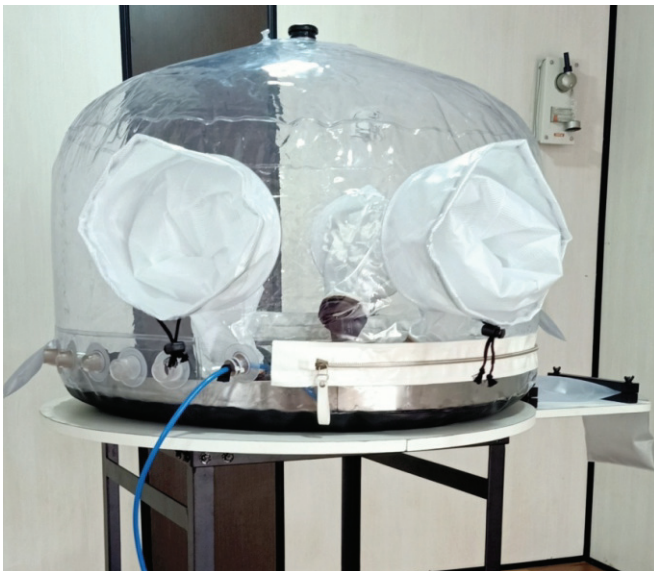

Fig 4: Gas distribution arrangement
- .. The special arrangement of gas distribution on the stainless-steel work base plate does not allow any air traps to be created inside the enclosure and provides defect-free titanium welding. (Refer Fig.4)
Huntingdon Fusion trailing shields are engineered and available as straight for plates and profiled according to the curvature of the pipes. Fig. 4 & 5 show trailing shields configured for straight plates and for outside welding of pipes, respectively. The width and length of the trailing shield is a function of the welding heat input and must be determined for each particular joint design during welding procedure development. If the trailing shield is too short, excessive oxidation on the surface of the solidified weld will occur (indicated by visible surface colour). A shield about 4 in. in length and 1½-2 in. in width is suitable for most manual work.